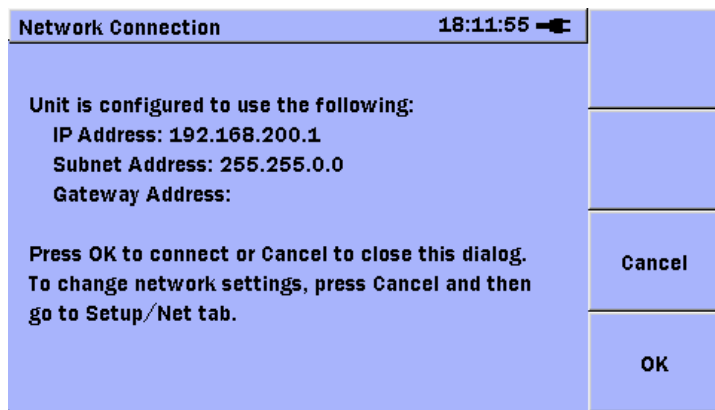

Figure B.1-7 Static Address Information
6. Connect the USB end of the USB-Ethernet converter to the USB type A port of the controller (see Figure 1.5-1). The screen shown in Figure B.1-7 will be displayed.